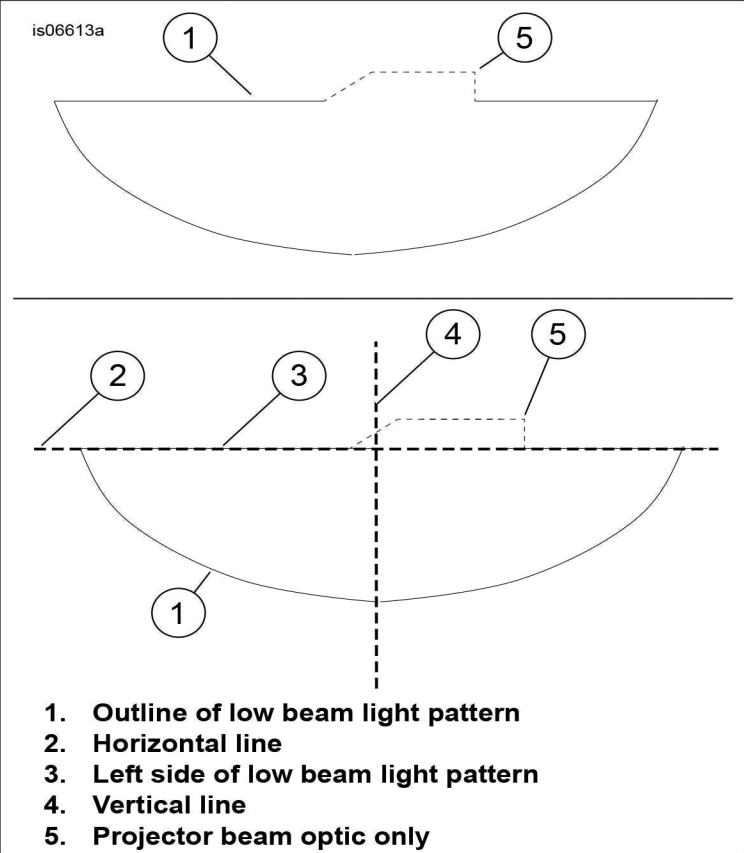

Figure 4. Alignment of Headlamp Low Beam
1. See Figure 4. Align the left side of the horizontal line of the **low beam** light pattern (3) with horizontal line (2) drawn on the wall. If necessary, adjust the headlamp position by following the adjustment procedure in the service manual.